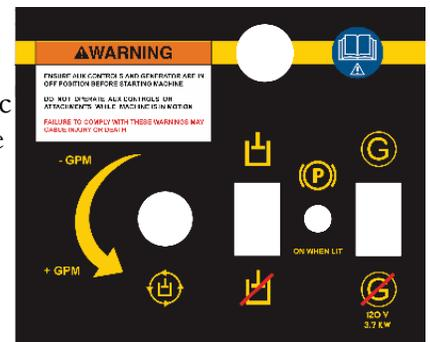

Fig 17
Caution: Never operate an electric tool while driving machine. No operator should be on the machine during the time of electric tool use. Doing so can result in serious injury or death. After the generator is turned on, the park brake is automatically set. Turn on the generator by using the switch on the control panel marked with "G" symbol. (*Fig 17*) After setting park brake you can begin to use the generator. You can use up to 3.7 KW. **Please see generator owner's manual for more information.**
1. Connect hoses with engine off and adjust the Aux Flow Knob to its lowest setting by rotating clockwise. (*Fig 17*)
2. Start the engine and turn on the Aux Flow circuit by using the switch on the control panel with the hydraulic symbol, next control the generator switch and aux flow knob. (*Fig 17*) At this time the park brake is automatically set.
6. While no one is handling the hydraulic tool flip the Aux Tool switch to off (*Fig 17*) and then turn off the machine. Try to activate the tool to reduce built up pressure and remove the hoses. Turn on the auxiliary tool circuit by using the switch on the control panel. (*Fig 17*)